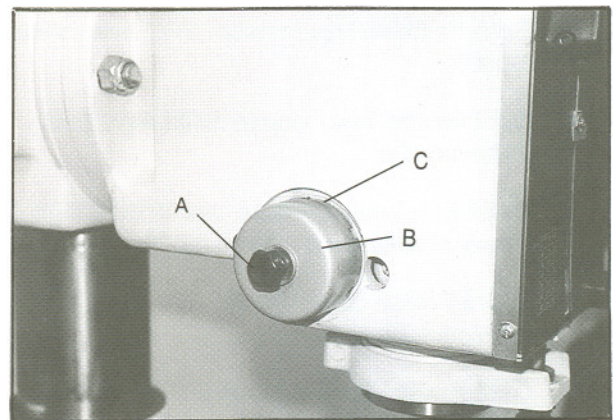

Fig. 14
2. Loosen lock knob (A, Fig. 14) while holding the quill spring cover. Do not allow the cover to turn in your hand or the spring will unwind.
3. Pull out the cover (B, Fig. 14) and rotate until the pin (C, Fig. 14) on the return spring plate engages the next notch in the coil spring cover. Turn the cover clockwise to decrease tension and counter-clockwise to increase tension.
4. Tighten the lock knob (A, Fig. 14). Do not over-tighten. Nuts should not contact the housing when tight.